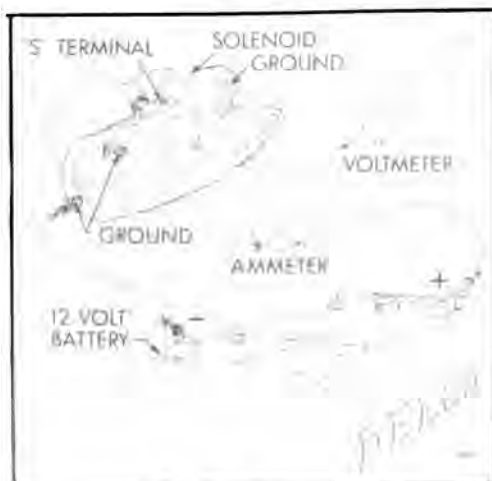

Figure 68-26--Amperage Test of Solenoid
1. Remove screw from solenoid motor terminal and bend field leads slightly until clear of terminal. Then ground solenoid motor terminal with a heavy jumper wire. See Figure 68-26.